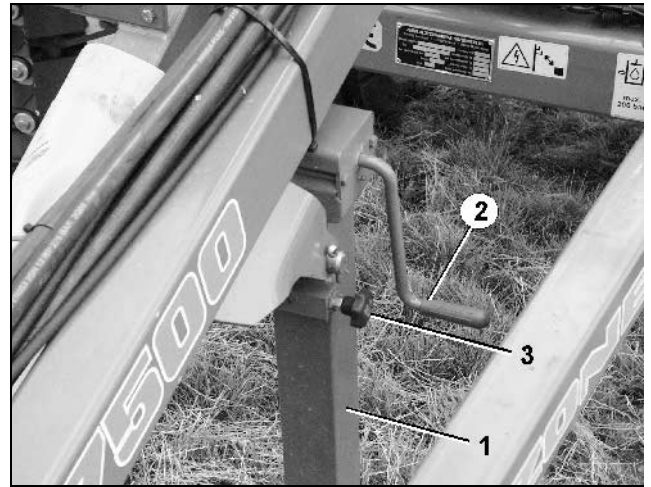

Fig. 18
Putting the jack (Fig. 18/1) into transport position:
- Use the crank (Fig. 18/2) to crank the jack upwards.
- Pull out the pin (Fig. 18/3) .